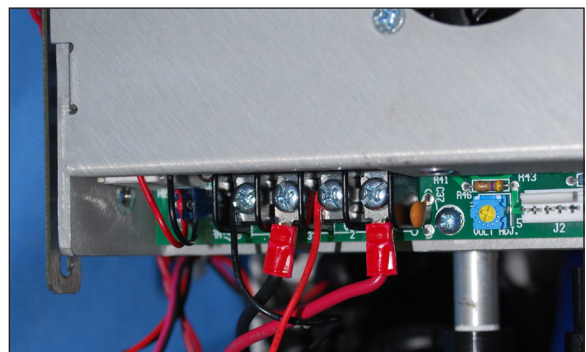

Figure 121 - Step 3 Connect fan wires to the power supply
3. Connect the fan wires to the power supply (Figure 121).